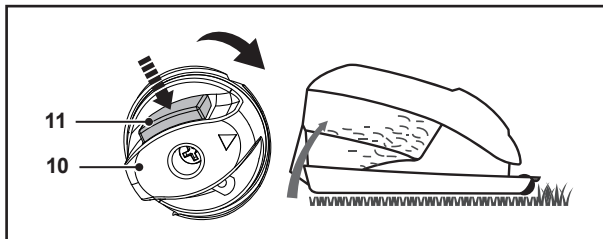

Fig. 10
- Press the unlock button (11) and turn the collect/mulch mode selector (10) clockwise to close the mulch flap (12) (Fig. 10).